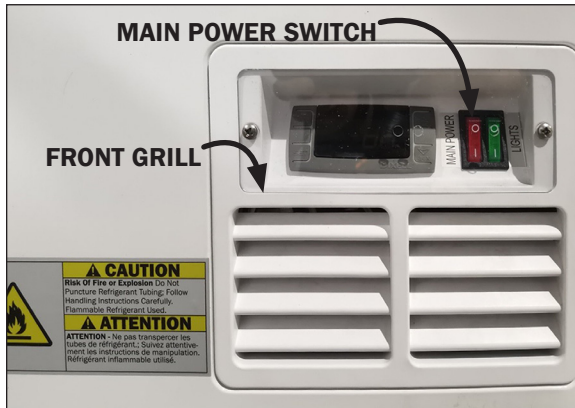

Fig. 32 Front panel grill & power switch
1. First turn the power to the case OFF with the switch (Fig. 32) found at the front panel grill. **DISCONNECT POWER to the case before proceeding.** The power can be disconnected at the main panel breaker in the building. Just turning OFF the case with the main power switch will NOT disconnect power coming to the case.